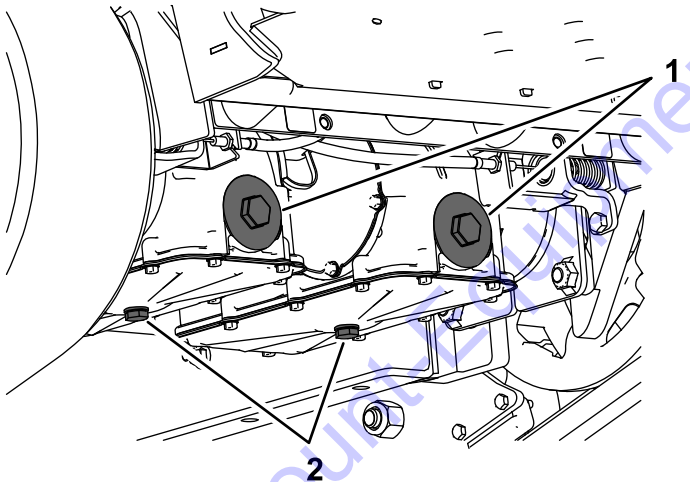

Figure 47
1. Rear bolt (2)
3. Side bolt (4)
5. Locate the drain plug in the bottom of each transmission, then place a drain pan under the plugs (Figure 47).
7. Remove the hydraulic-filter cap and hydraulic filter from each transmission (Figure 47).